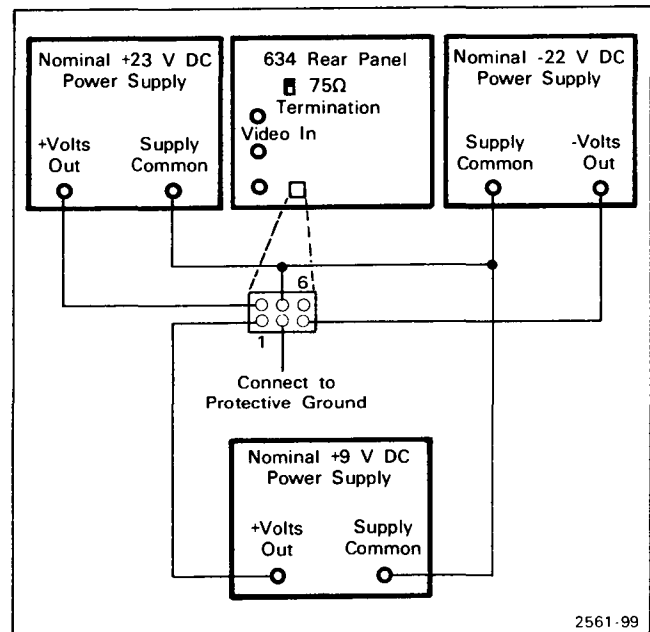

Figure 6-2. 634 Option 20 external power supply connections.
*For Option 20 Monitors: Connect your instrument to the DC Power Supplies as shown in Figure 6-2.*